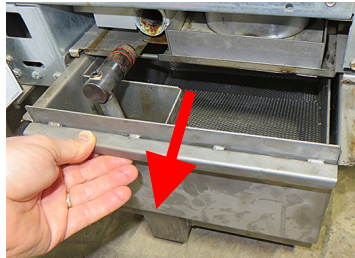

Figure 2
4. Remove the filter pan (see Figure 2).